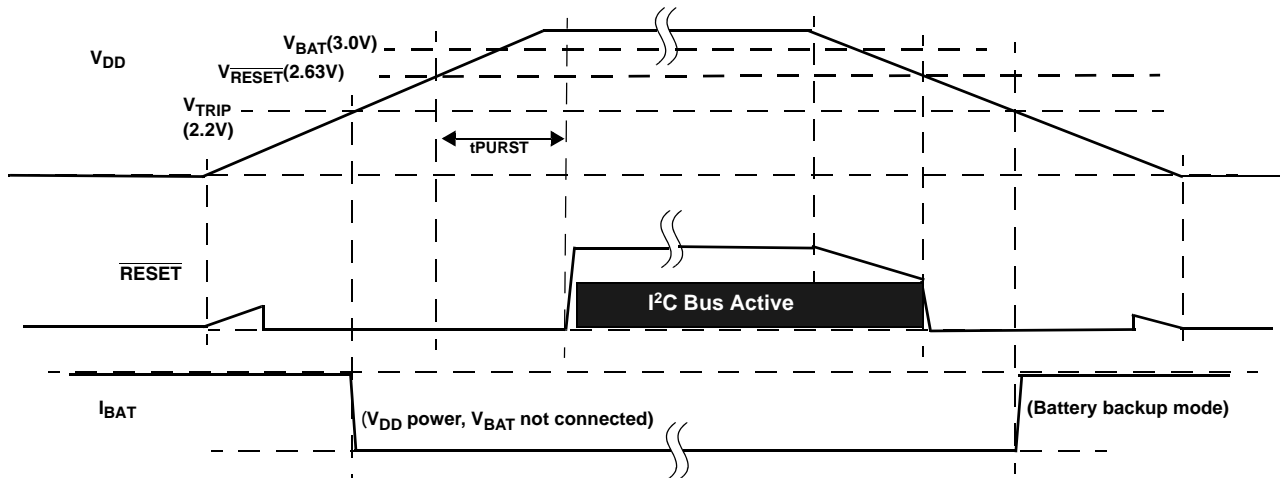

FIGURE 29. EXAMPLE RESET OPERATION IN MODE A OR C
- Mode A - In this mode selection bits indicate a low V_{DD} switchover combined with I²C operation in battery backup mode. In actuality the V_{DD} will go below V_{RESET} before switching to battery backup, which will disable I²C ANYTIME the device goes into battery backup mode. Regardless of the battery voltage, the I²C will work down to the V_{RESET} voltage. See Figure 29.
- Mode C - In this mode the selection bits indicate a low V_{DD} switchover combined with no communications in battery backup. Operation is actually identical to Mode A with I²C communications down to V_{DD} = V_{RESET}, then no communications. See Figure 29.